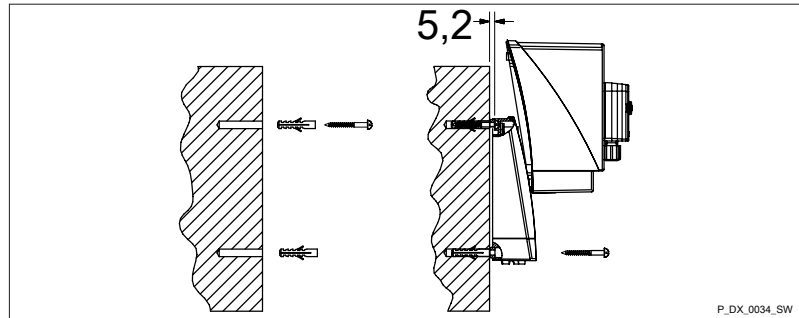

Fig. 6: Wall-mounted, parked position - dimensions in mm (not true to scale).
2. ➤ Drill the \varnothing 8 mm holes and position the rawplugs supplied - see Fig. 6.